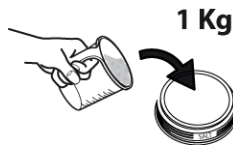

Fig.45
- 3- Pour approx. 1 kg of coarse salt [NaCl] in the container. (Fig.45)